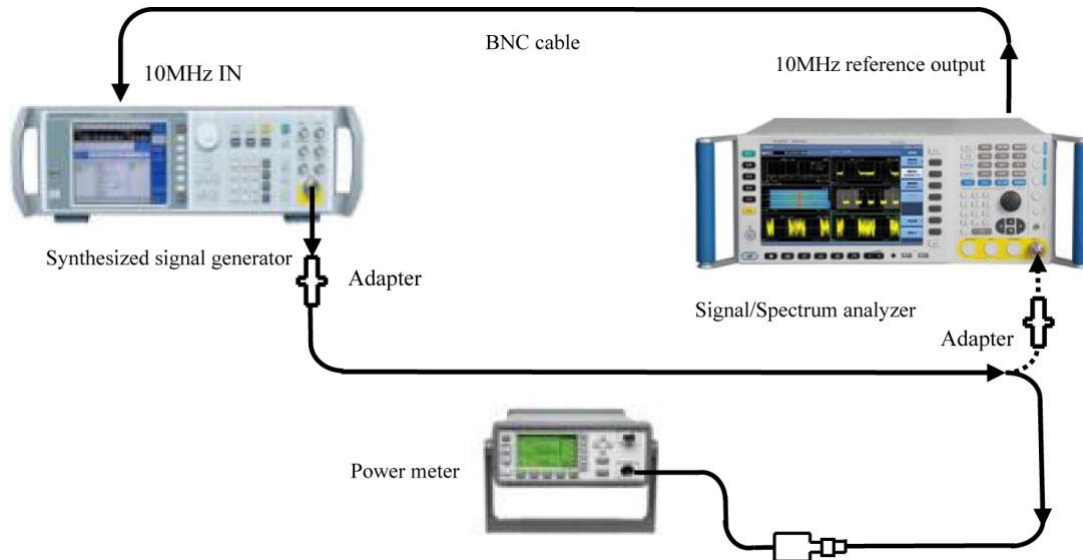

Fig. 8.11 Schematic diagram of overall absolute amplitude accuracy test
- 1) Zero and calibrate the power meter. Connect the tested instrument according to solid lines in Fig. 8.11 and connect the output of the signal generator to the power meter. Reset the 4051 analyzer and complete all calibrations without prompted error messages.
- 4) Change the connections in the test according to dotted lines in Fig. 8.11 to connect the cable via the adapter to the 4051 analyzer.
- 7) Calculate 500 MHz absolute amplitude accuracy ΔA_{500} of the frequency point according to the formula (18) and record the result in the 4051 Record Sheet:
- 4) After calibration, take the calibrated part from the calibration cable and connect the test cable interface to the output interface of the 4051 analyzer as shown in Fig. 8.11.